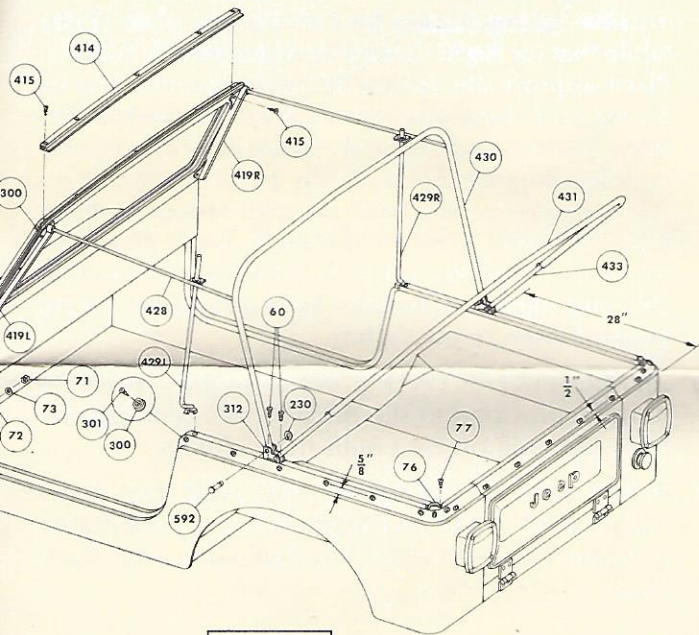

FIGURE 4
- B. (4107 Top) Attach Front-Bow (P/N 430) (ends slightly flattened and Bow-Covers installed) to Bow-Pivot-Brackets using Grooved-Pivot-Pins and Retaining-Snap-Rings as shown in Figure 4.